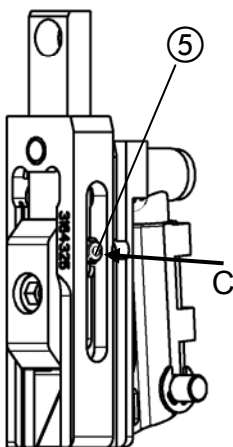
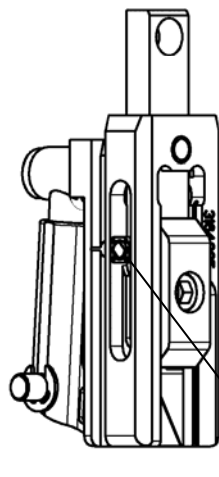
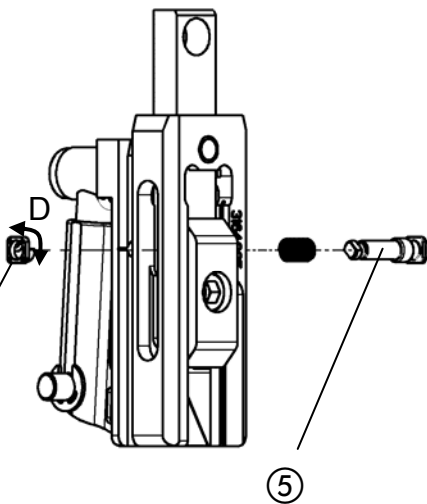

Fig. 29
Fig. 30
Fig. 31
- Fig. 29, Fig. 30, Fig. 31 -
- Press actuating pin ⑤ into the bender (arrow C) until the pin retainer ④ protrudes far enough from the bender to enable it to be turned.